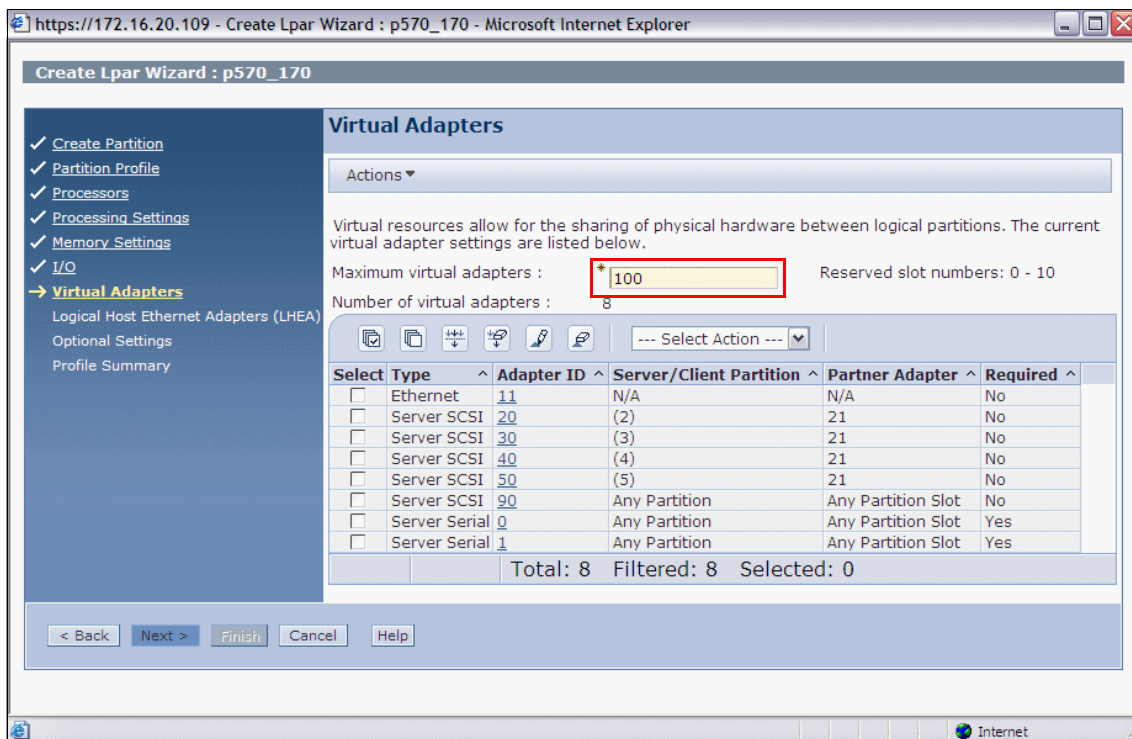

Figure 11-2 Set a proper Maximum virtual adapters value
- ▶ If you want to add more virtual adapters dynamically later, you should set a proper value of **Maximum virtual adapters**, as shown in Figure 11-2. This value cannot be adjusted dynamically and you cannot add more virtual adapter if you reach this limitation.